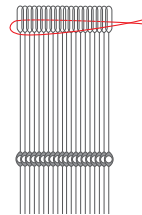

FIGURE 6: THREADING HEDDLES ONTO STRING
1. Determine how many heddles you want on each shaft. Count out the desired number, then thread a string through the holes at each end of the heddles and tie them (Figure 6). String a group of heddles for each shaft.